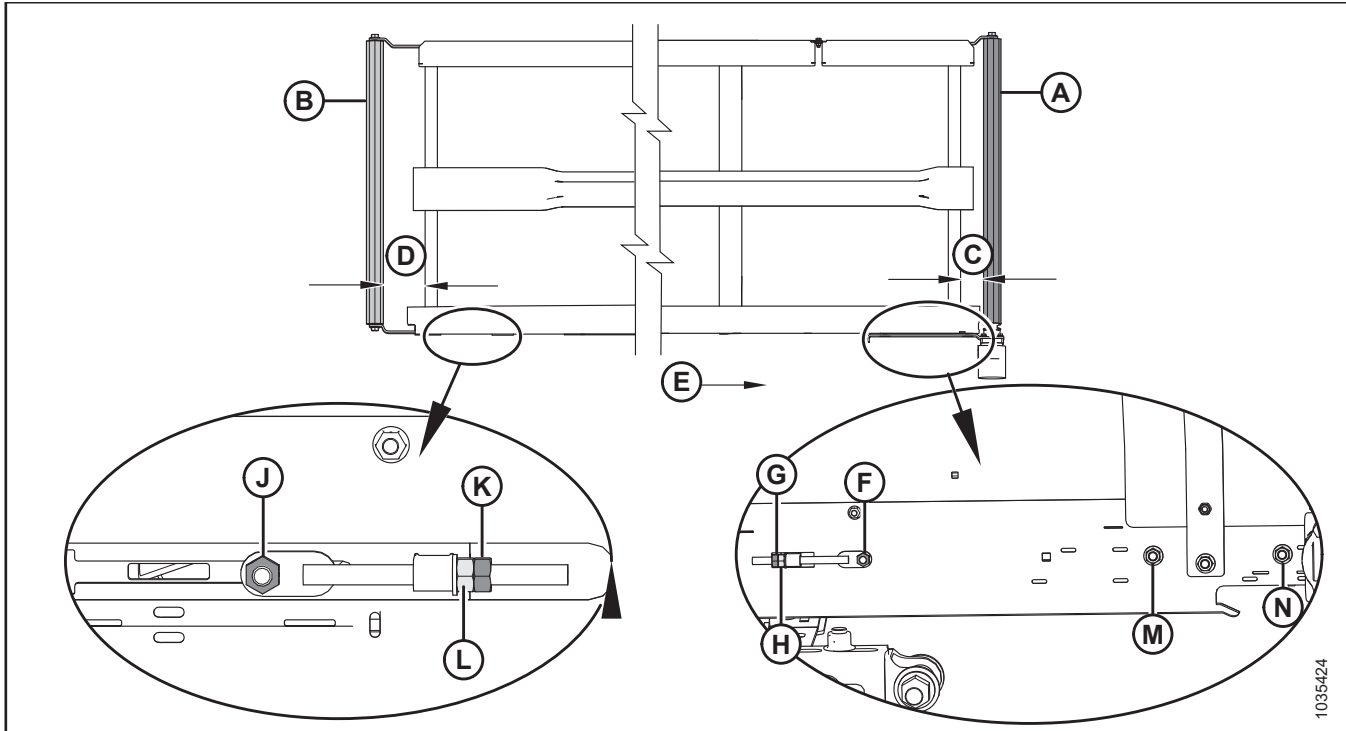

Figure 4.250: Draper Tracking Adjustments – Left Draper
2. Adjust drive roller (A) to change **C** (refer to Table 4.2, page 398 and Figure 4.250, page 398) as follows:
- a. Loosen nuts (F), (M), and (N), and jam nut (G).
- b. Turn adjuster nut (H).
- c. Tighten nuts (F), (M), and (N), and jam nut (G).
3. Adjust idler roller (B) to change **D** (refer to Table 4.2, page 398 and Figure 4.250, page 398) as follows:
- a. Loosen nut (J) and jam nut (K).
- b. Turn adjuster nut (L).